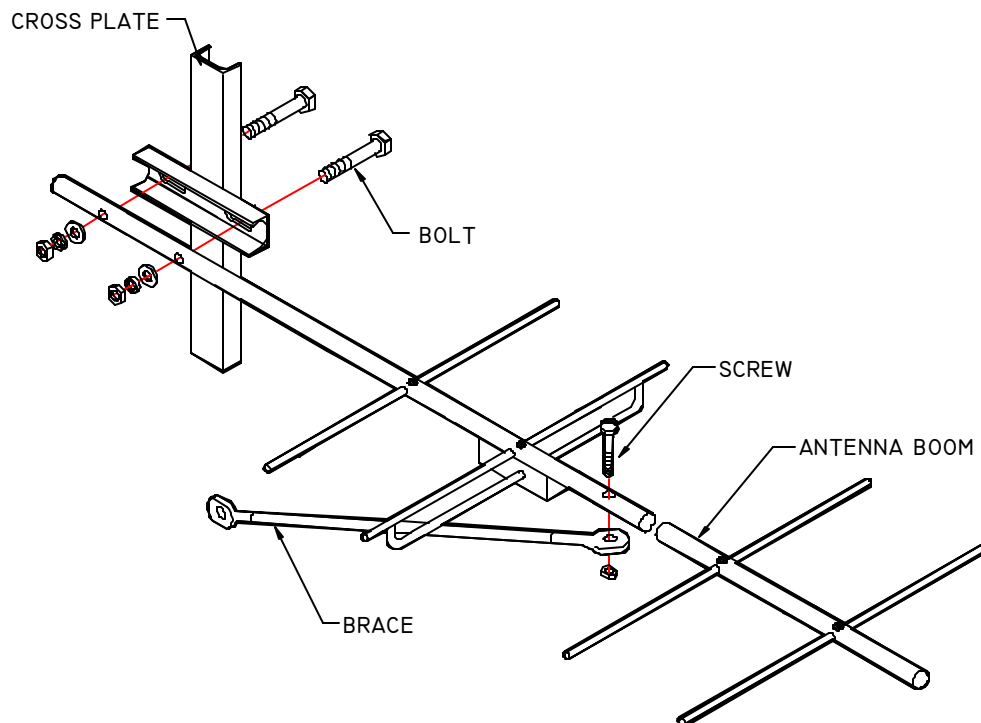

Figure 1
- b. Attach bent end of the brace to the antenna using 10-24 x 1-1/4" screw. The mounting hole is located approx. 2/3 from the mounting end of antenna in a plane perpendicular to the elements plane. See Figure 1.